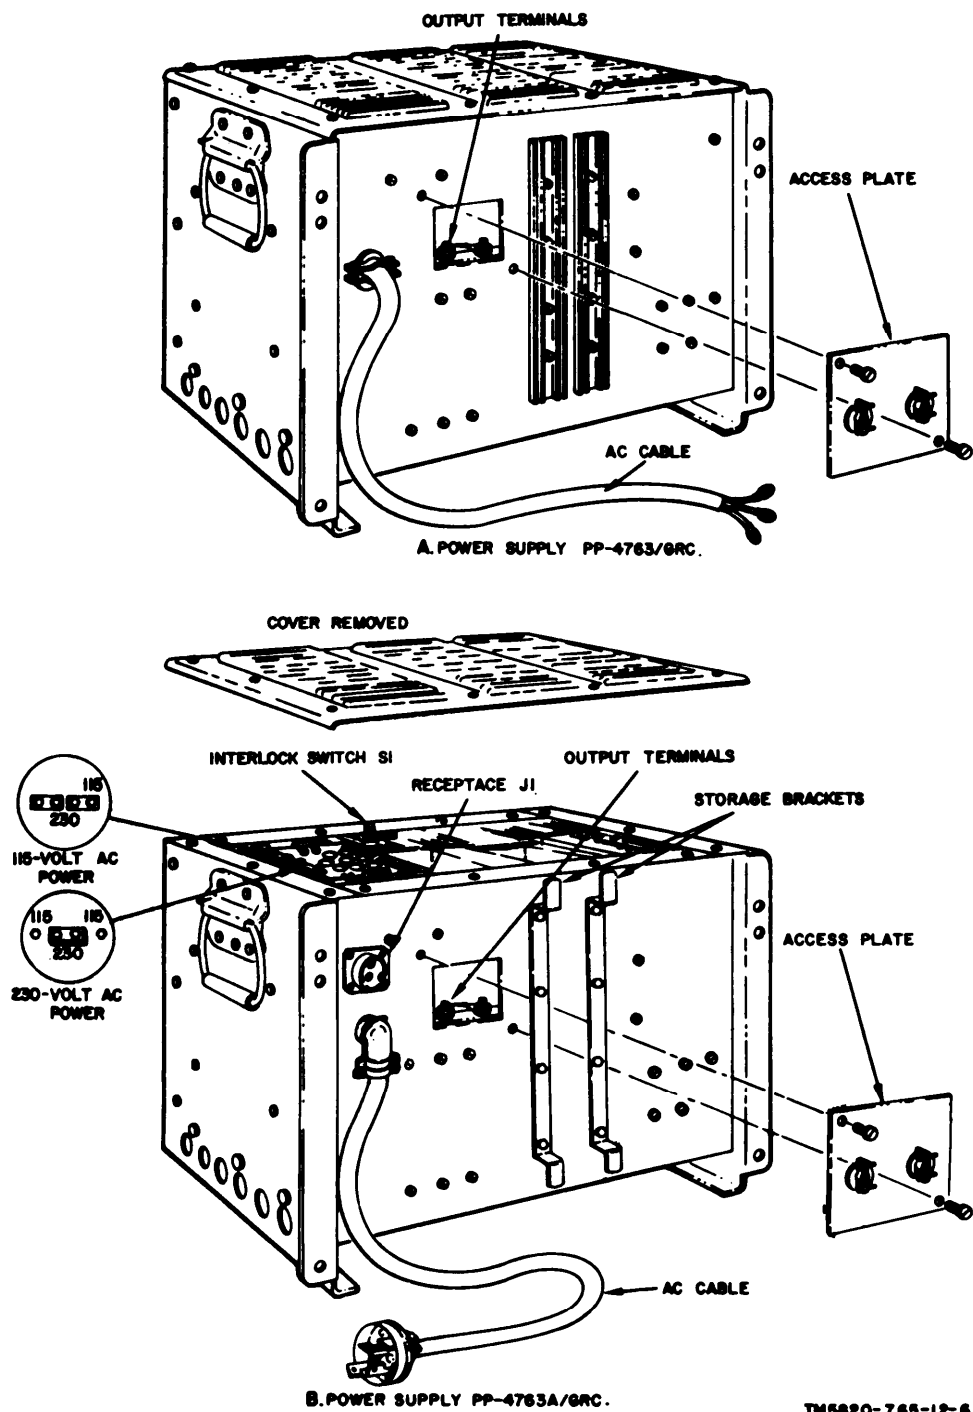

Figure 2-2. Installation connections.
high, 19½ inches wide, and 15¼ inches deep and weighs 125 pounds. A hinged front panel and a removable cover provide access to the electrical components. The PP-4763A/GRC is provided with an interlock switch which opens the ac input power circuit when the cover is removed. An input circuit breaker and indicator are mounted on the front panel. A carrying handle is mounted on each side of the metal cabinet. An output voltage adjustment is mounted behind the front panel and can be reached by removing a plate on the outside of the front panel. The PP-4763A/GRC is provided with movable links for converting the equipment for use from a 116-volt ac power source to a 230-volt ac power source. The links can be reached by removing the cover. The sides of the cabinet are flanged on the bottom and at the back for mounting purposes. Venting is provided by air louvers on the bottom and on the top cover of the cabinet. An ac power cable (fig. 2-2) is connected through the rear panel of the power supply. The PP-4763A/GRC is supplied with an ac plug attached to the cable, and the PP4763/GRC is supplied with a cable that has three terminal lugs on each end. Output terminals (dc) with polarity plainly marked are located behind an access plate at the rear panel for connecting the output of the power supply to the equipment being powered (cable not supplied). Also, the PP-4763A/GRC is provided with a dc output receptacle at the rear panel which may be used instead of the output terminals for connecting to equipment being powered.
(fig. 2-2)
when using the PP-4763/GRC. Connect the power cable to either a single-phase 115-volt, 50- to 60-cps source, or a single-phase, 230-volt, 50- to 60-cps source when using the PP4763A/GRC. After determining which power source will be used, secure the ac input links in the correct position for the selected input power as illustrated in figure 2-2. For 115-volt power, secure the links as shown in figure 2-2; for 230-volt power, secure the links as shown in figure 2-2. Note that in the 230-volt position, both links are fastened (in parallel) across the two center terminals and secured. A connector is mounted on the power cable to connect the PP-4763A/GRC to the ac power supply; the power cable for the PP4768/GRC maybe connected directly to the ac power supply as follows:
(1) Connect the white wire to the grounded ac terminal.
(2) Connect the black wire to the ungrounded ac terminal.
(3) Connect the GRD wire to a good earth ground.
c. Remove the rear panel access plate to expose the dc output terminals (fig. 2-2).
d. Connect two dc leads with 1/4-inch lugs capable of carrying 50-ampere current (or the current requirements of the load connected) to the power supply output terminals. The PP-4763A/GRC is provided with dc output receptacle J1 at the rear panel (fig. 2-2), and either the output terminals or output receptacle J1 may be used.